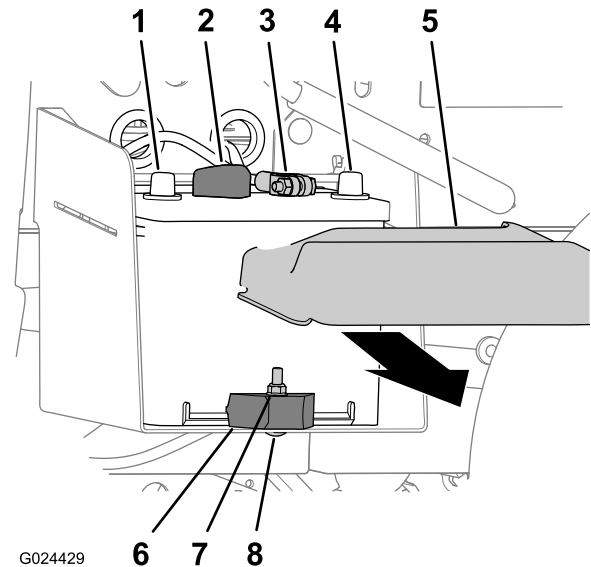

Figure 34
1. Squeeze the sides of the battery cover and remove the cover from the top of the battery (Figure 34).
2. Disconnect the negative battery cable from the terminal of the battery (Figure 34).
3. Disconnect the positive battery cable from the terminal of the battery (Figure 34).
2. Remove the locknut, carriage bolt, and battery clamp that secures the battery to the battery tray (Figure 34).
3. Remove the battery from the battery tray (Figure 34).
1. Align the battery to the battery tray of the machine (Figure 34).
- Note:** Ensure that the positive and negative posts of the battery are aligned as shown in Figure 34.
2. Secure the battery to the battery tray with the battery clamp, carriage bolt, and locknut (Figure 34).
1. Connect the positive battery cable to the terminal of the battery (Figure 34).
2. Connect the negative battery cable to the terminal of the battery (Figure 34).
3. Install the battery cover onto the top of the battery (Figure 34).